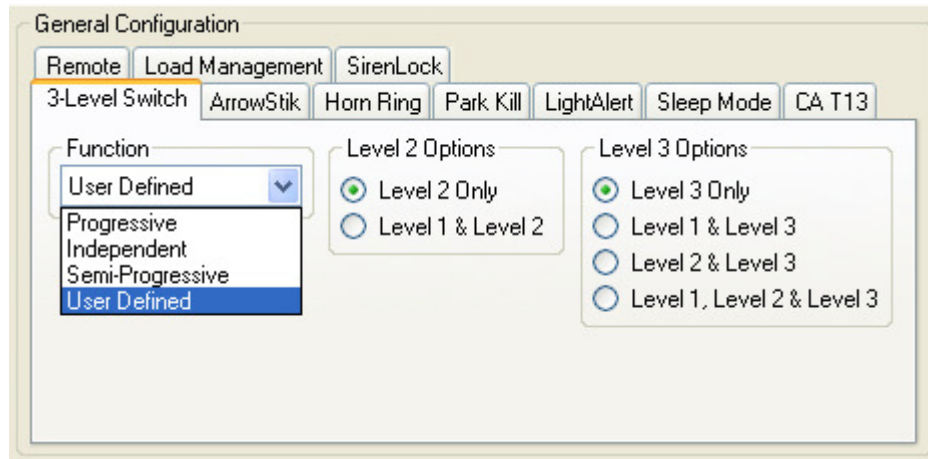

Figure 1
- **User Defined** – Levels 2 and 3 can be configured to operate in multiple combinations (see Figure 1). Level 1 will always operate Level 1 only and is not configurable.